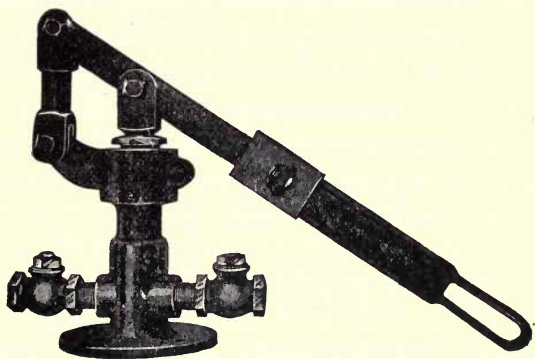

FIG. 163.—Boiler Test-Pump.
**349. Testing Boilers for Defects.**—Boilers are tested in two ways: (1) by hydraulic pressure, and (2) by the hammer test. The hydrostatic test consists in filling the boiler with water and then exerting by means of a boiler test-pump (Fig. 163) one-half more pressure than the boiler is expected to carry. For instance, if it is expected to carry 100 lbs. pressure, it is tested up to 150 lbs. The hammer test is made by going over the boiler and tapping it with a small hammer. An experienced ear can tell by the sound of a blow and by the feel of the iron whether a weakness has developed. Corrosion and strains from expansion and contraction are liable to cause a decrease in the strength of a